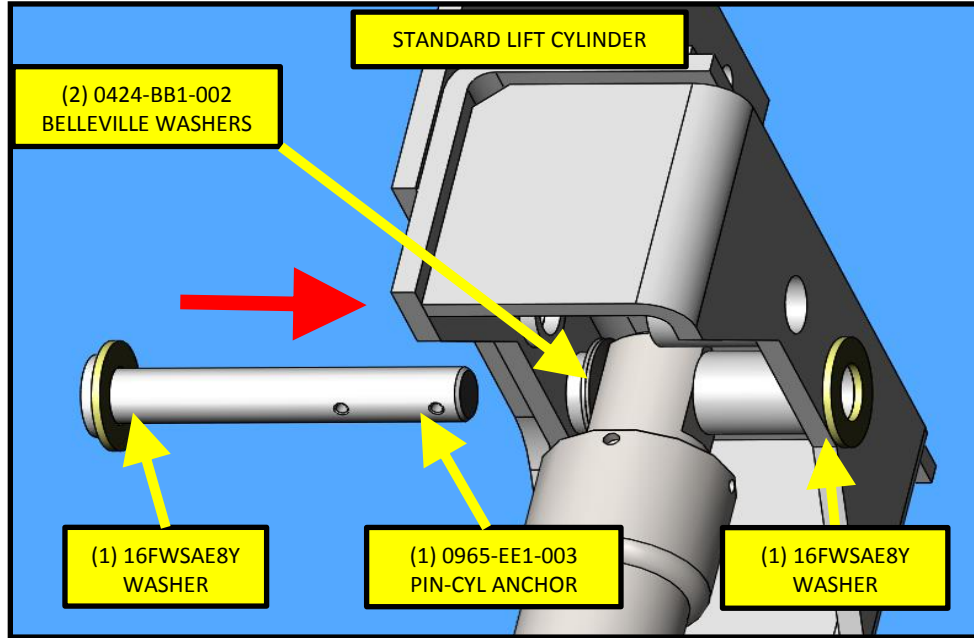

FIG. 20-1
- a. Locate (2) 16FWSAE8Y washers and (2) 0424-BB1-002 Belleville washers, then slide 0965-EE1-003 pin-cylinder anchor into place. Refer to FIG. 20-1.